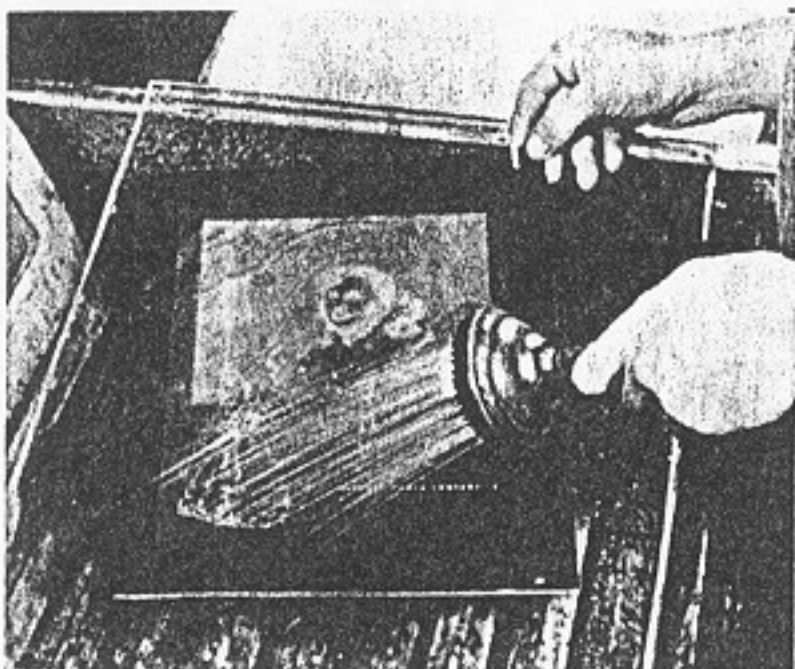

Fig. 151. Wash in Spray Bath
4. The unexposed, non-hardened areas of the film are then washed free by placing the film, emulsion side up, on a sheet of glass and spraying it with water at approximately 100°F. This step is similar to that in processing the conventional type of photographic process film except that a spray bath is recommended, Fig. 151.